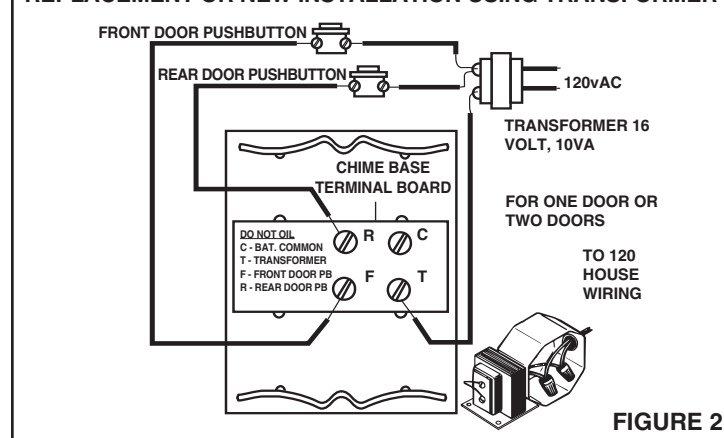

FIGURE 2
2. Run wires as shown in Figure 2 for installation using transformer.
Refer to Figure 2. Connect pushbutton and transformer wires to terminal screws marked Front, Transformer, and Rear.